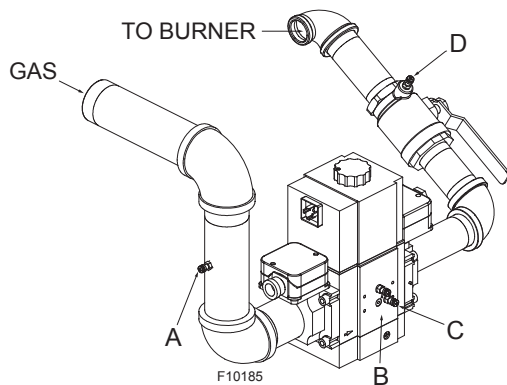

Figure 43. Gas Pressure Measurement Locations
- Attach (1) 12" scale manometer to an upstream bleedle valve on the gas supply pipe to the heater. Measure point "A" in **Figure 43**.
Proper leak testing requires three pressure test points in the gas train. Remove the upper front panel and swing the front J-box out of the way to access the gas valve for this test. Refer to **Figure 43**.
Test point C is a bleedle valve located downstream of both automatic gas valve seats and upstream of the manual valve. Refer to **Figure 43**.